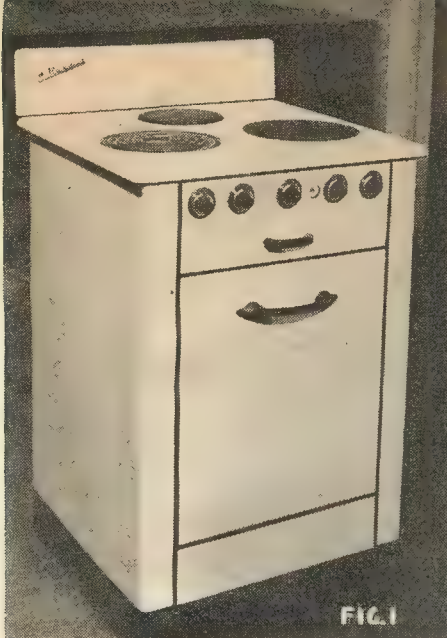

FIG. 1
9. OVEN TIMERS, MINUTE TIMER, PILOT LAMP FOR HOTPLATES, AND FLUORESCENT HOB LIGHT - fitted to 2011 models only. Fig. 1 shows front view of fascia panel. Fig. 5 shows rear view with back panel removed.